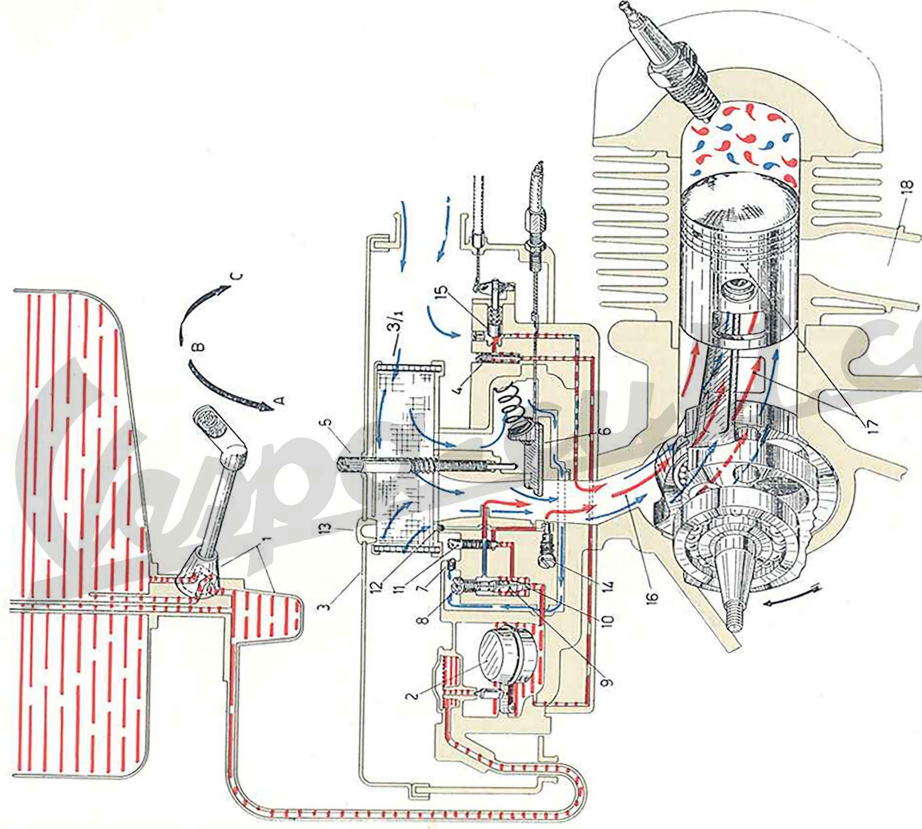

Fig. 9 - Fuel supply and distribution diag.
For adjusting the idling turn the slow running adjuster screw (fig. 9 n. 5).
- On the air cleaner case, opposite to said screw, is a plugged hole. When this plug is removed the spring loaded idler adjusting screw is accessible (Fig. 9, n. 14).
- 2) - With the engine stationary and throttle fully opened, introduce 40 cc. of **OIL SAE 30** through the appropriate hole on the air cleaner case (n. 13, fig. 9). After said operation depress the kickstarter three or four times.